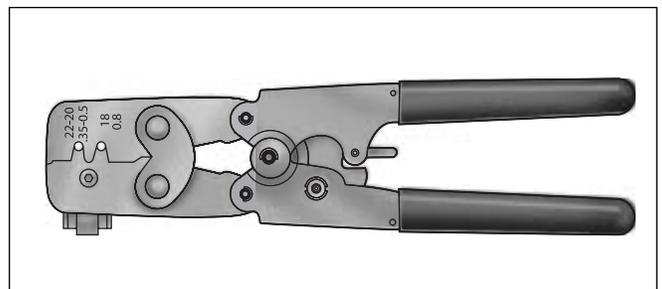

Figure 8-29. Packard Micro 64 Terminal Crimper (Part No. HD-45929)
2. Obtain the Packard Micro 64 Terminal Crimper (HD-45929). See Figure 8-29.